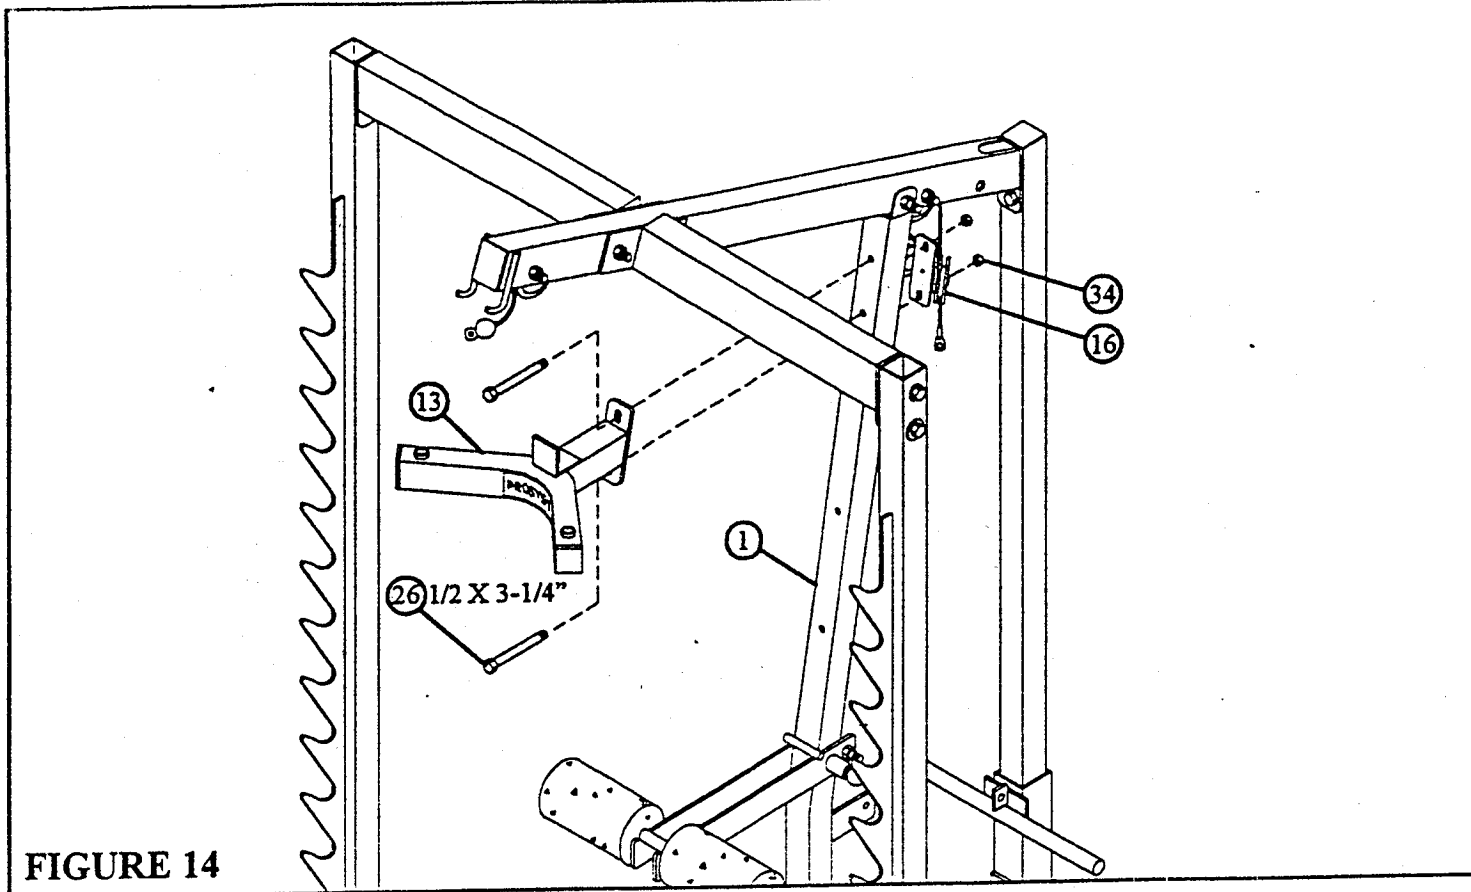

FIGURE 14
- **SECURELY** assemble the BEARING HOUSING (13) and the CENTER PULLEY BRACKET (16) to the UPRIGHT FRAME (1) using two 1/2 X 3-1/4" BOLTS (26) and two 1/2" LOCKNUTS (34) as shown in FIGURE 14.